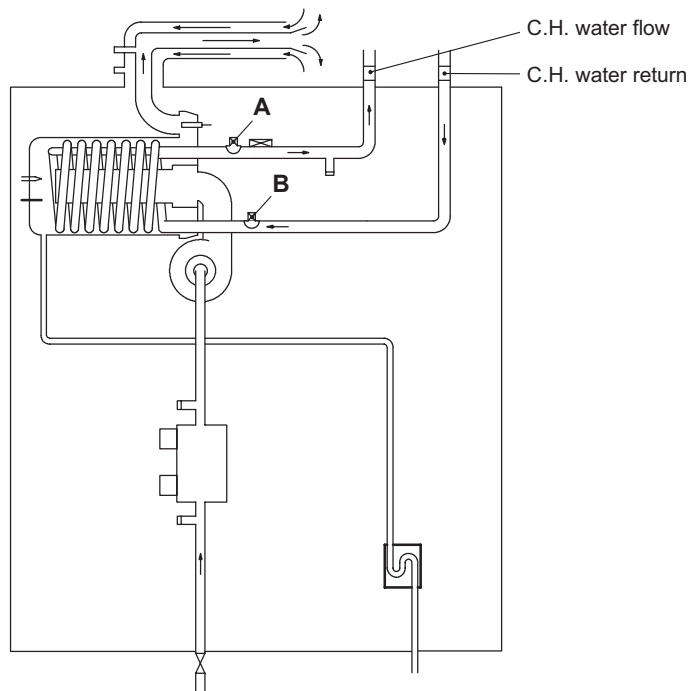
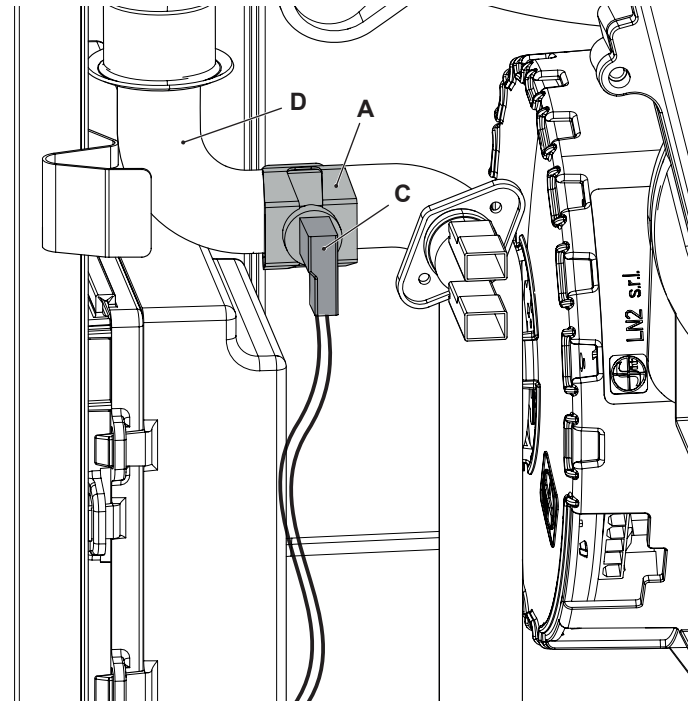
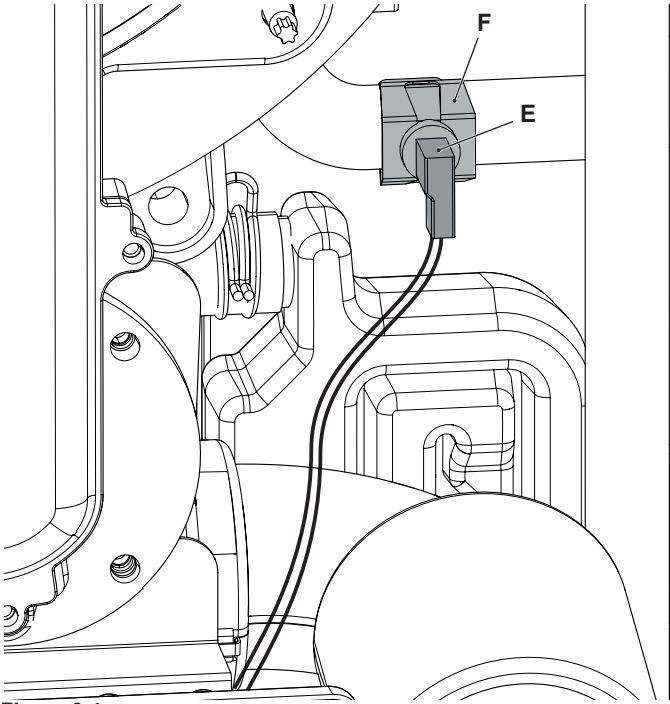

Figure 9.2
Figure 9.3
Figure 9.4
On the boiler there are two temperature probes. One on the output of the primary condensing heat exchanger (C.H. flow temperature probe) "A" in Figure 9.2 and Figure 9.3; one on the input of the primary condensing heat exchanger (C.H. return temperature probe) "B" in Figure 9.2 and Figure 9.4.
- 3 Remove the electric connector "C" and unscrew the C.H. flow temperature probes "A" (Figure 9.3).
- 3 Remove the electric connector "E" and unscrew the C.H. return temperature probes "F" (Figure 9.4)